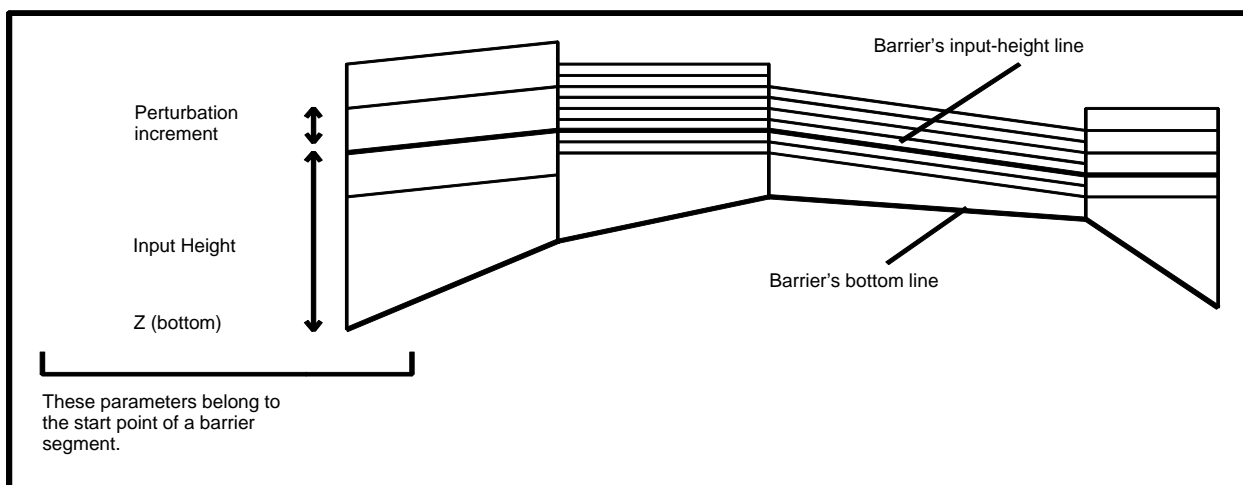

Figure 33. Barrier perturbations: Vertical side view of a barrier.
Figure 33 is a side view of a perturbed barrier. The bottom heavy line along the barrier is the barrier's bottom. You input this bottom line by entering a Z (bottom) coordinate for each barrier point. The top heavy line is the barrier's input-height line. You input this input-height line by entering a height for each barrier point. Each barrier segment is then perturbed as shown. You input these perturbations by entering three parameters for each barrier segment: (1) perturbation height, (2) number of perturbations up, and (3) number of perturbations down. In the input-dialog spreadsheet, you enter these perturbations on each segment's start point row. The last barrier point needs no entries for these parameters.